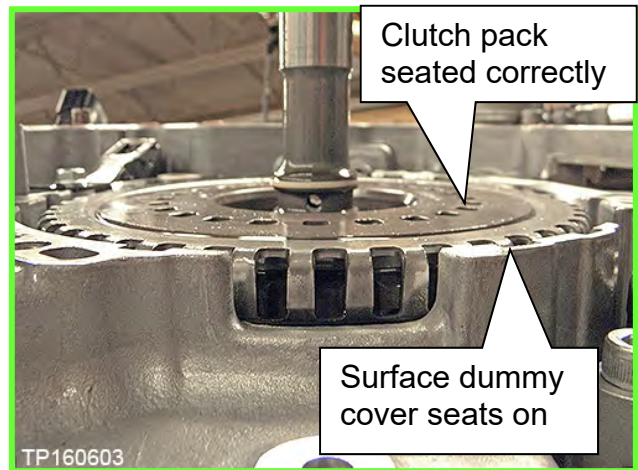

Figure 207
- Figure 207 shows clutch pack fully seated.